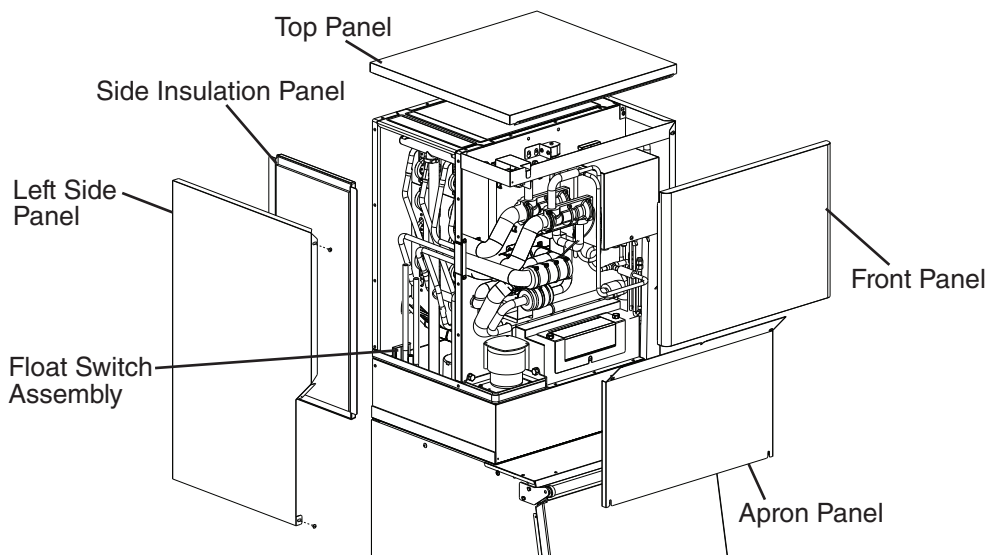

Fig. 13
- 7) Remove the front, apron, top, left side, and side insulation panels. See Fig. 13.